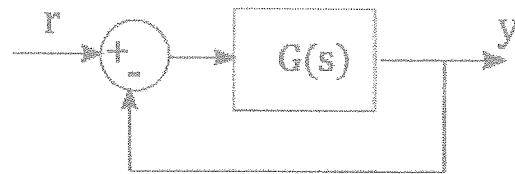

Figure Q3.
- b) Consider the unity feedback system shown in Figure Q3 where